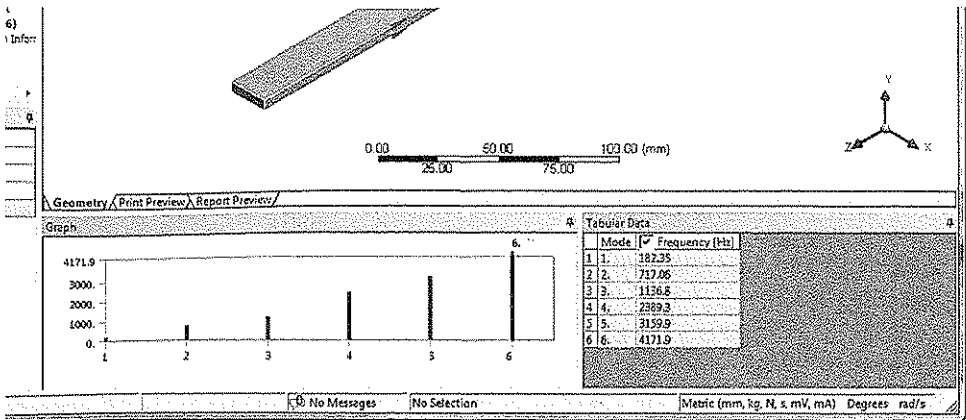

Figure 10-18 Partial view of the Mechanical window displaying the Graph and Tabular Data windows
7. Select the **Solution** node in the Tree Outline; the **Graph** and **Tabular Data** windows are displayed, refer to Figure 10-18.